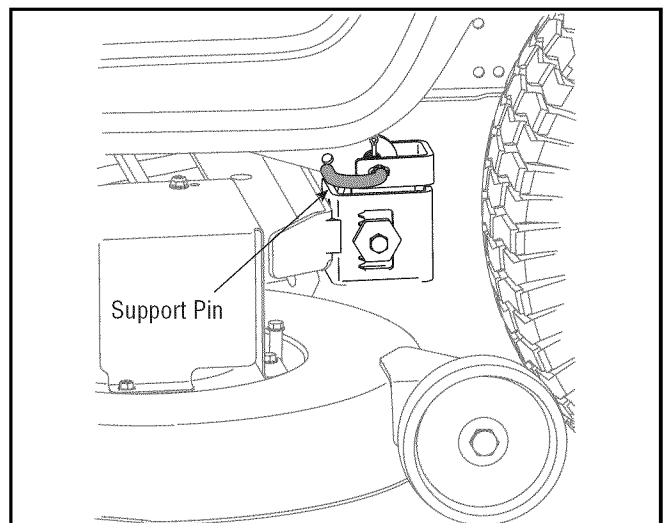

Figure 18
- Looking at the cutting deck from the left side of the tractor, locate the deck support pin on the rear left side of deck. See Figure 18.